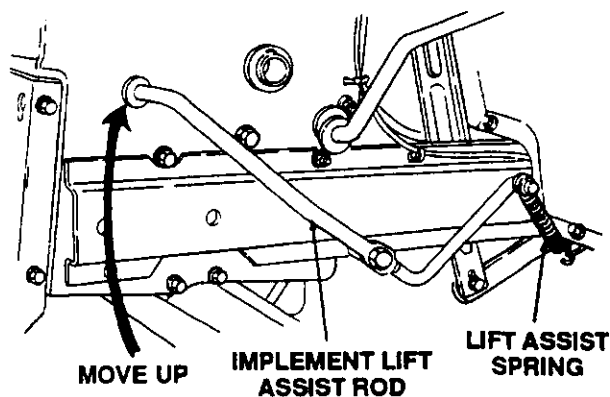

Figure 24
20. Releasing tension on the spring, allow each lift assist rod to rise upward (outside the tractor frame) to its highest position. (Refer to Figure 24.)